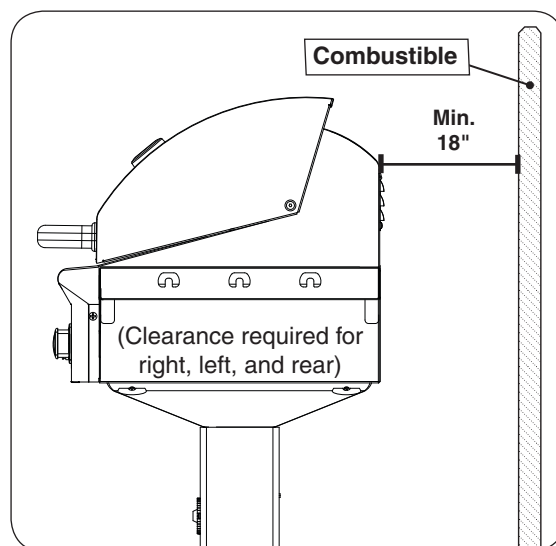

Fig. 9-3 Clearance 'C' Diagram
- The unit must have a minimum of 18" right, left, and rear clearance from any combustible wall (see Fig. 9-3).